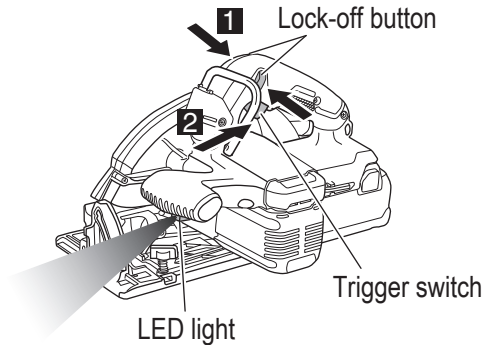

Fig. 23
- How to use the LED light (Fig. 23)